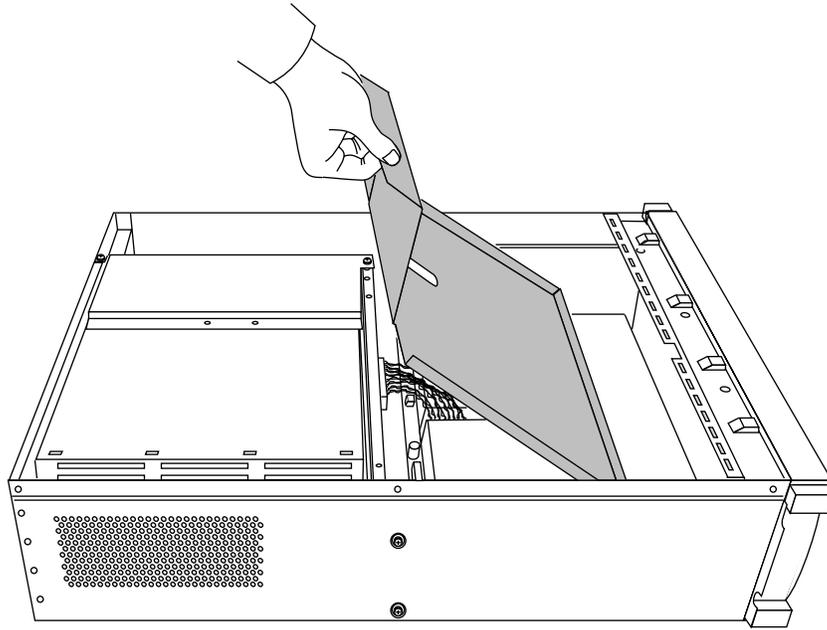

Figure 5-30 Removing the Power Supply Shroud
- As you lift the shroud, tilt it as shown in Figure 5-30.